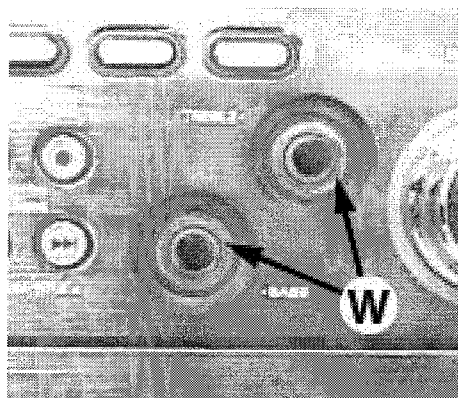
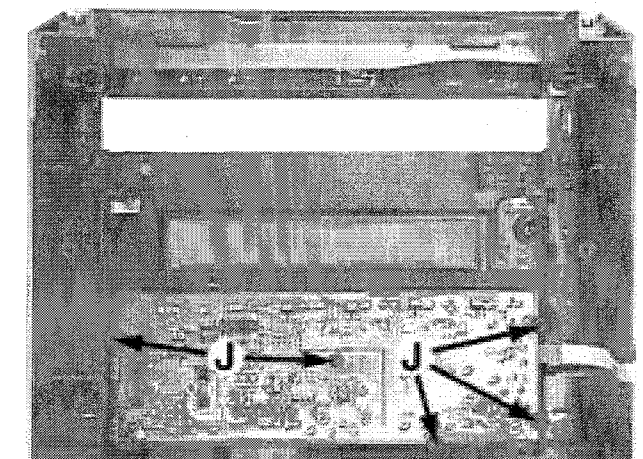

Figure 10
Figure 14
- 9) Loosen 5 screws J (see Figure 14) and 2 nuts W (see Figure 10) to remove the Control Board (pos 1105B).